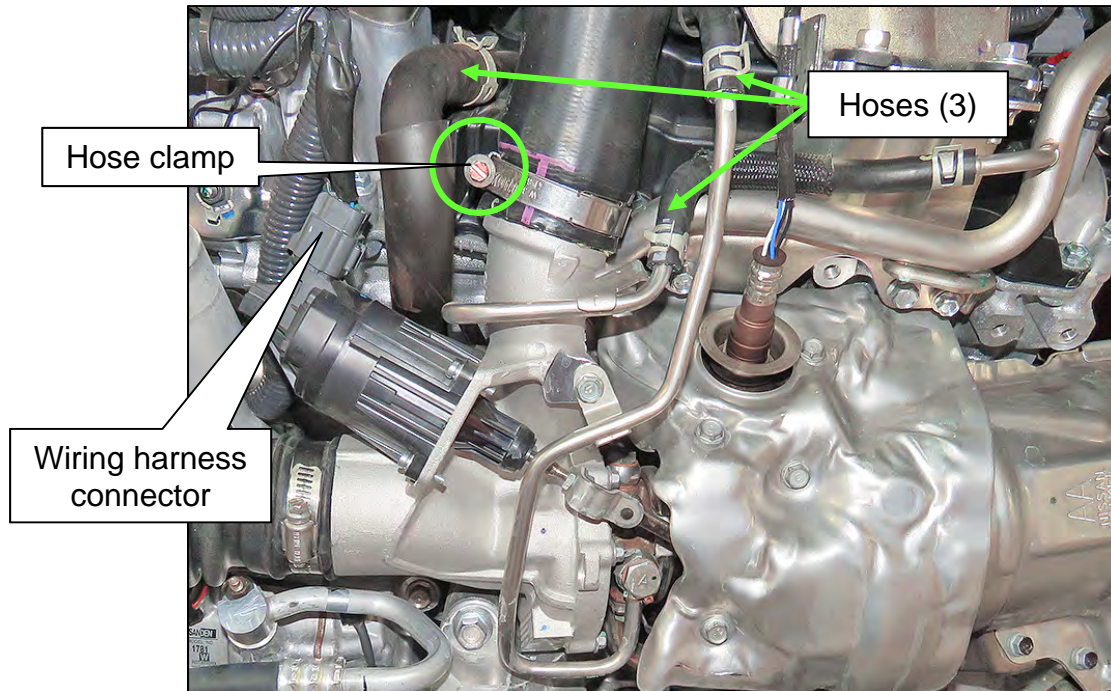

Figure 68
106. Loosen the hose clamp shown in Figure 68. This hose will be detached in step 123 on page 36.
107. Release the spring clamps and disconnect the three (3) associated hoses, shown in Figure 68.
108. Disconnect the wiring harness connector shown in Figure 68.